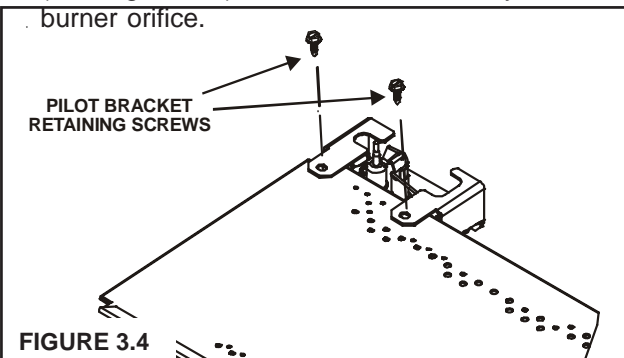

FIGURE 3.4
- Unscrew the brackets at both ends of the burner and the top two screws locating the pilot bracket (see Figure 3.4). Slide the burner away from the burner orifice.